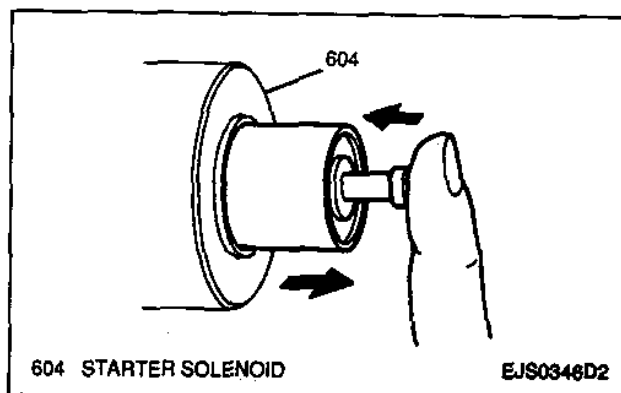

Figure 34—Inspecting Starter Solenoid Plunger Operation
5. Starter solenoid plunger by pressing the plunger in and releasing it (Figure 34). If the plunger does not return to its original position quickly, the starter solenoid must be replaced.